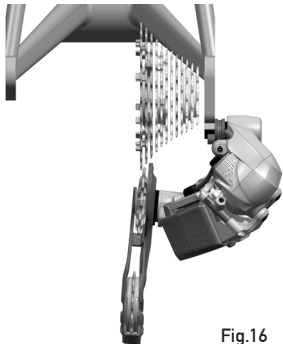

Fig.16
- by placing the rear derailleur on the largest sprocket, looking at it from the rear, you will notice that the lower part of the jockey cage is too close to the spokes of the wheel, as the drop-out of the rear derailleur is probably bent (Fig. 16).